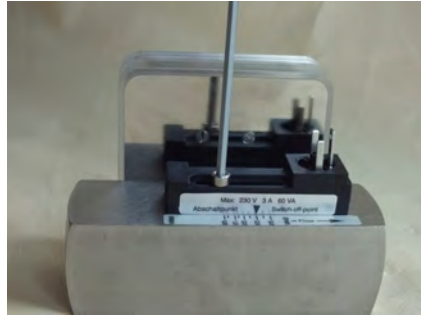

Fig. 69: Loosen set screw
3. ➤ Using a Hex screwdriver, (Fig. 69) loosen the set screw so that the switch contact can be removed.
10. ▶ Tighten the set screw (Fig. 69/1) observing the proper torque ( Chapter 11.1 "Tightening torque" on page 80)